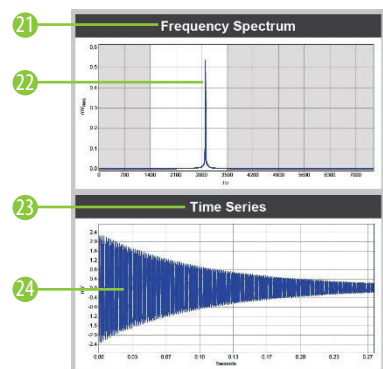
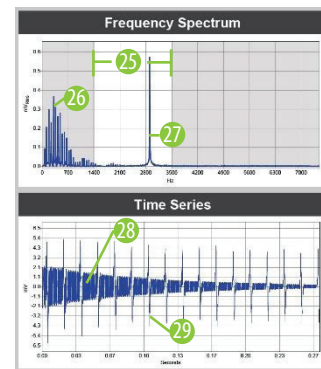

Figure 1: Vibrating Wire Signal
Figure 2: Vibrating Wire Signal With Noise
The following two sets of graphs illustrate the use of VSPECT™ to identify a sensor signal in a quiet and noisy environment. Both graphs were created from VWA reports using the same sensor. Fig. 1 was measured in an electrically quiet environment, while Fig. 2 was measured in an electrically noisy environment (AC power) similar to what can be seen in a field environment (power lines, motors, radio signals, etc.). The time series on Fig. 1 shows a relatively clean signal ②④ that is clearly identified ②② on the frequency spectrum ②①. The time series ②⑧ on Fig. 2 shows the influence of the noise. ②⑨ Vibrating wire readers that only use the time series ②⑧ to determine the frequency may report an incorrect frequency as a result of noise. The frequency spectrum (VSPECT™) filters the noise ②⑥ and easily identifies the sensor signal ②⑦. VSPECT™ provides noise immunity by correctly identifying the sensor signal and ignoring the influence of electrical noise that commonly affects time-domain-based vibrating wire readers.